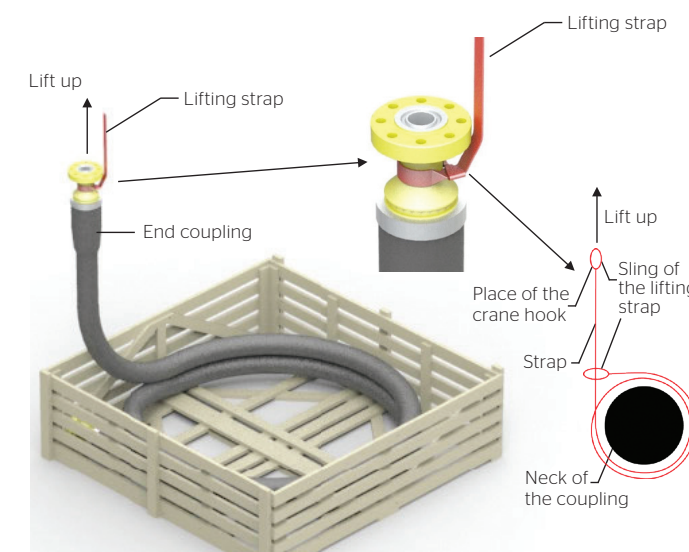

Fig. 13 Unpacking by using sling on the neck of the flexible line assembly
- Alternatively, if the diameter of the end connector coupling is considerably larger than the coupling's neck, the flexible line can be lifted by choking/tightening with a lifting strap as shown in Fig. 13. The lifting strap has to be wrapped around the neck of the coupling at least two full turns. The sling of the lifting strap has to be fixed to the crane's swivel hook to prevent twisting the flexible line.